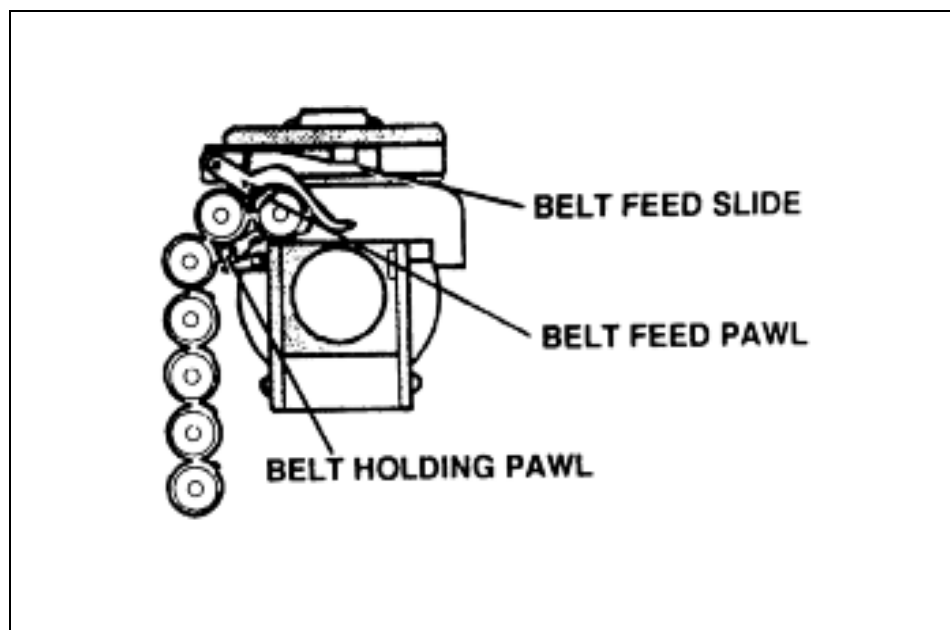

Figure 3-5. Feeding--step 2.
(1) As the bolt is moved to the rear, the belted ammunition is moved over and then held in a stationary position by the belt-holding pawl. At the same time, the belt-feed pawl rides up and over the link, holding the first round in place. When the bolt is all the way to the rear, the belt-feed slide moves out far enough to allow the belt-feed pawl spring to force the pawl up between the first and second rounds (Figure 3-5).